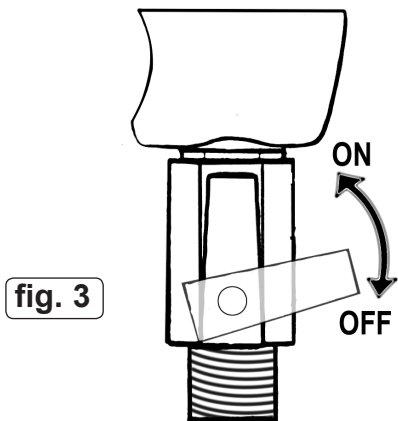

**Fig. 2**
- 4.2 Ensure the valve is in the 'OFF' (Fig. 2) position and turn on the air supply.